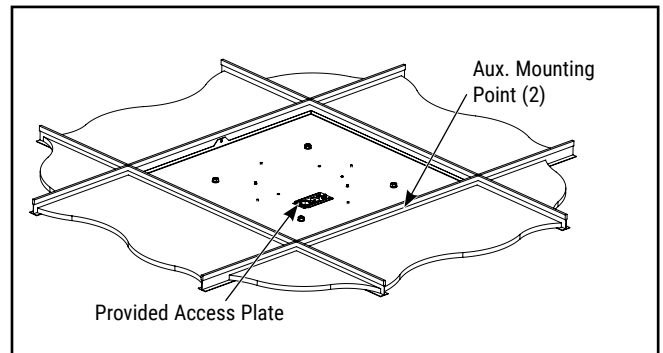

Figure 3.
3. Make sure electrical supply is NOT energized, then make supply connections in access plate provided in ceiling mounting plate on top of the fixture. (See Figure 3)
4. Additional auxiliary mounting points are provided. Chains, cables, rigid wire, etc., may be employed to supportive structure above the fixture. (See Figure 3)